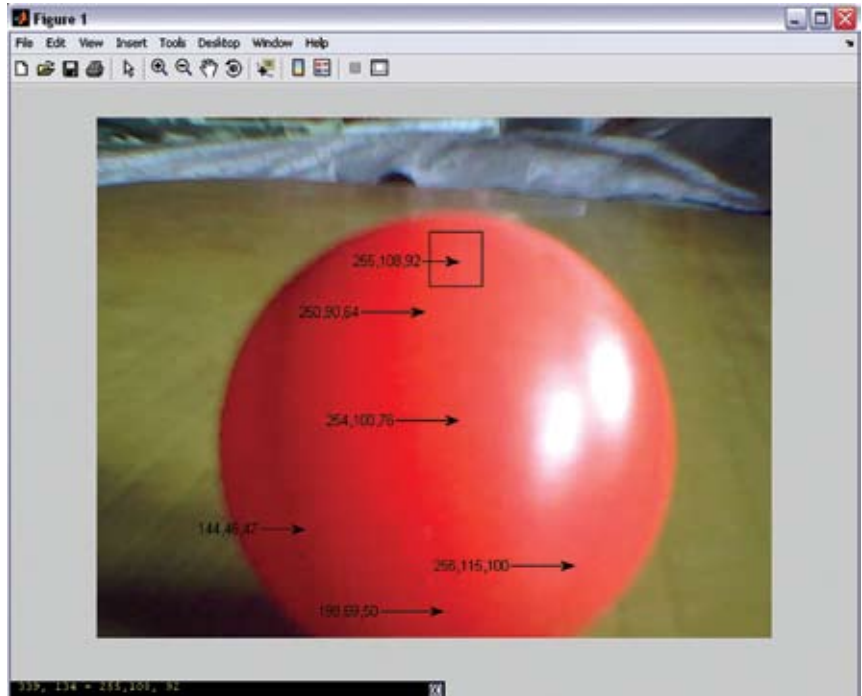

Fig. 5: Screenshot of the red ball
1. Take at least ten snaps of the red ball at various angles (refer Fig. 5)
In the screenshot shown in Fig. 5, the least value of the red component is '144.' So R_THRESHOLD can be taken as '144.' The maximum value of the green component is '115.' So G_THRESHOLD can be taken as '115.'